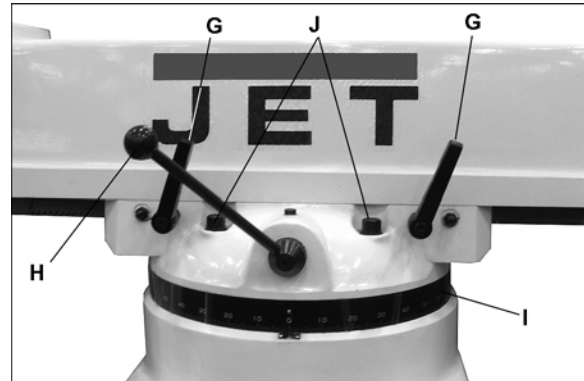

Figure 12: Ram positioning
Refer to Figure 12.
1. Loosen handles (G, Figure 12) that lock the ram to its ways.
2. Turn lever (H) to slide ram.
3. When desired position is reached, lock handles (G) securely.
1. Loosen four turret lock bolts (J, Figure 12) that clamp the ram to the top of the base. One-half (1/2) turn should be sufficient to allow the turret to move.
2. Swing the ram until spindle is in desired position. Use scale (I) on turret for degree measurement.
3. Tighten the four turret lock bolts (J).